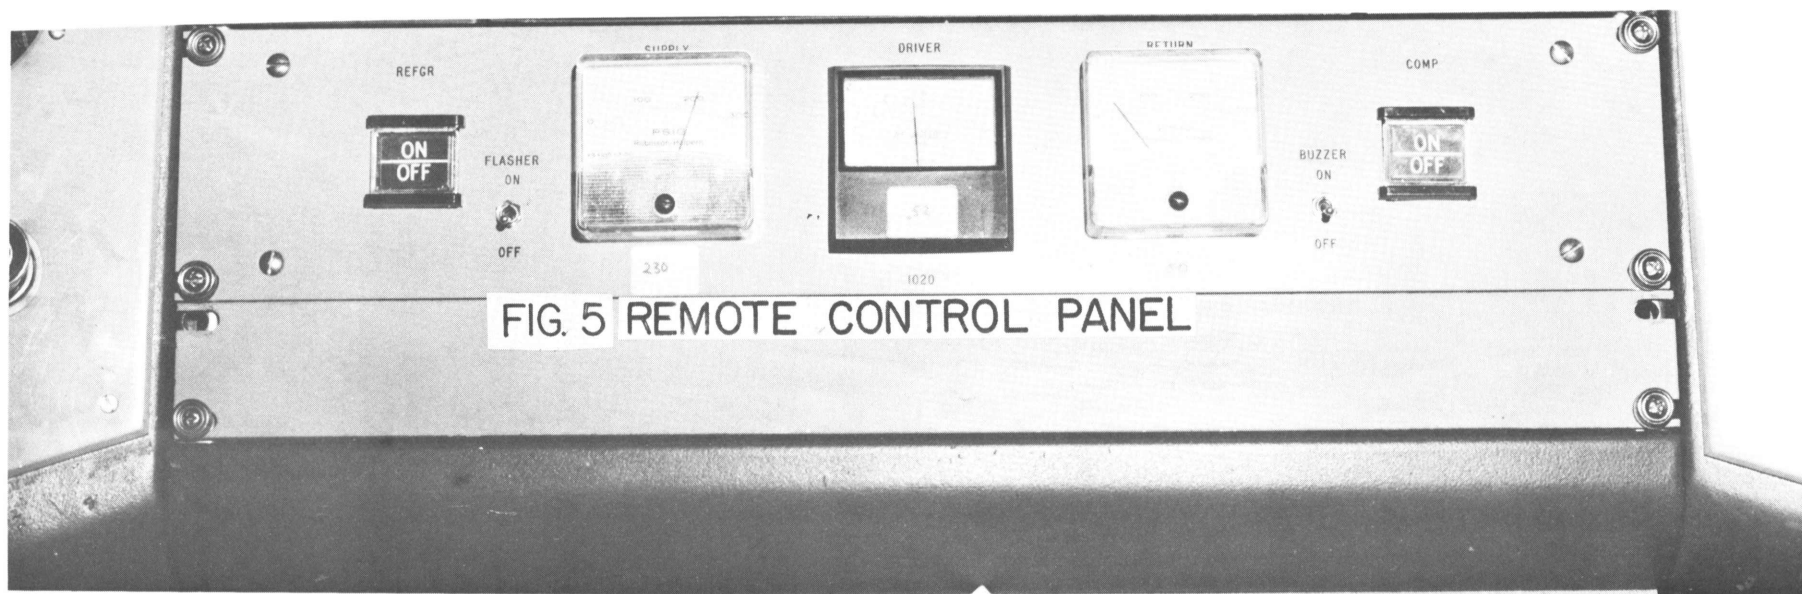

FIG. 5 REMOTE CONTROL PANEL
Depress the on-off switch to start the refrigerator and note the current reading on the remote panel (Fig. 5). This only indicates that the refrigerator driver is getting power. Somebody should check to be certain that the driver is rotating in the proper direction (CW). The driver is quite capable of running in the wrong direction with no different indication on the ammeter.